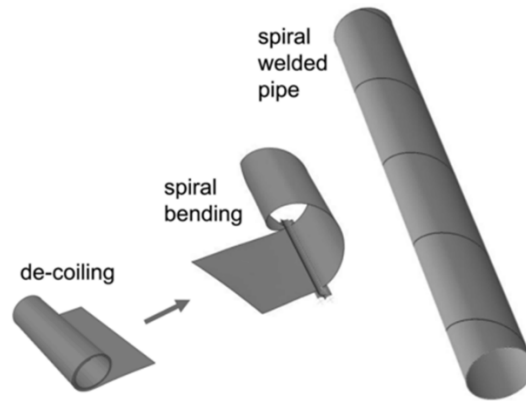

Figure 2. Formation of spiral welded pipes
2. A facility produces spiral-welded steel pipes, as shown in figure 2. The steel is 1.2 mm thick, the diameter of the pipe is 150 mm, and the length of the welded sections of pipe are 6.5 m. The pipe sections are to be welded using a fibre laser using a nitrogen shield gas. The weld is autogenous and does not require any additional filler material.